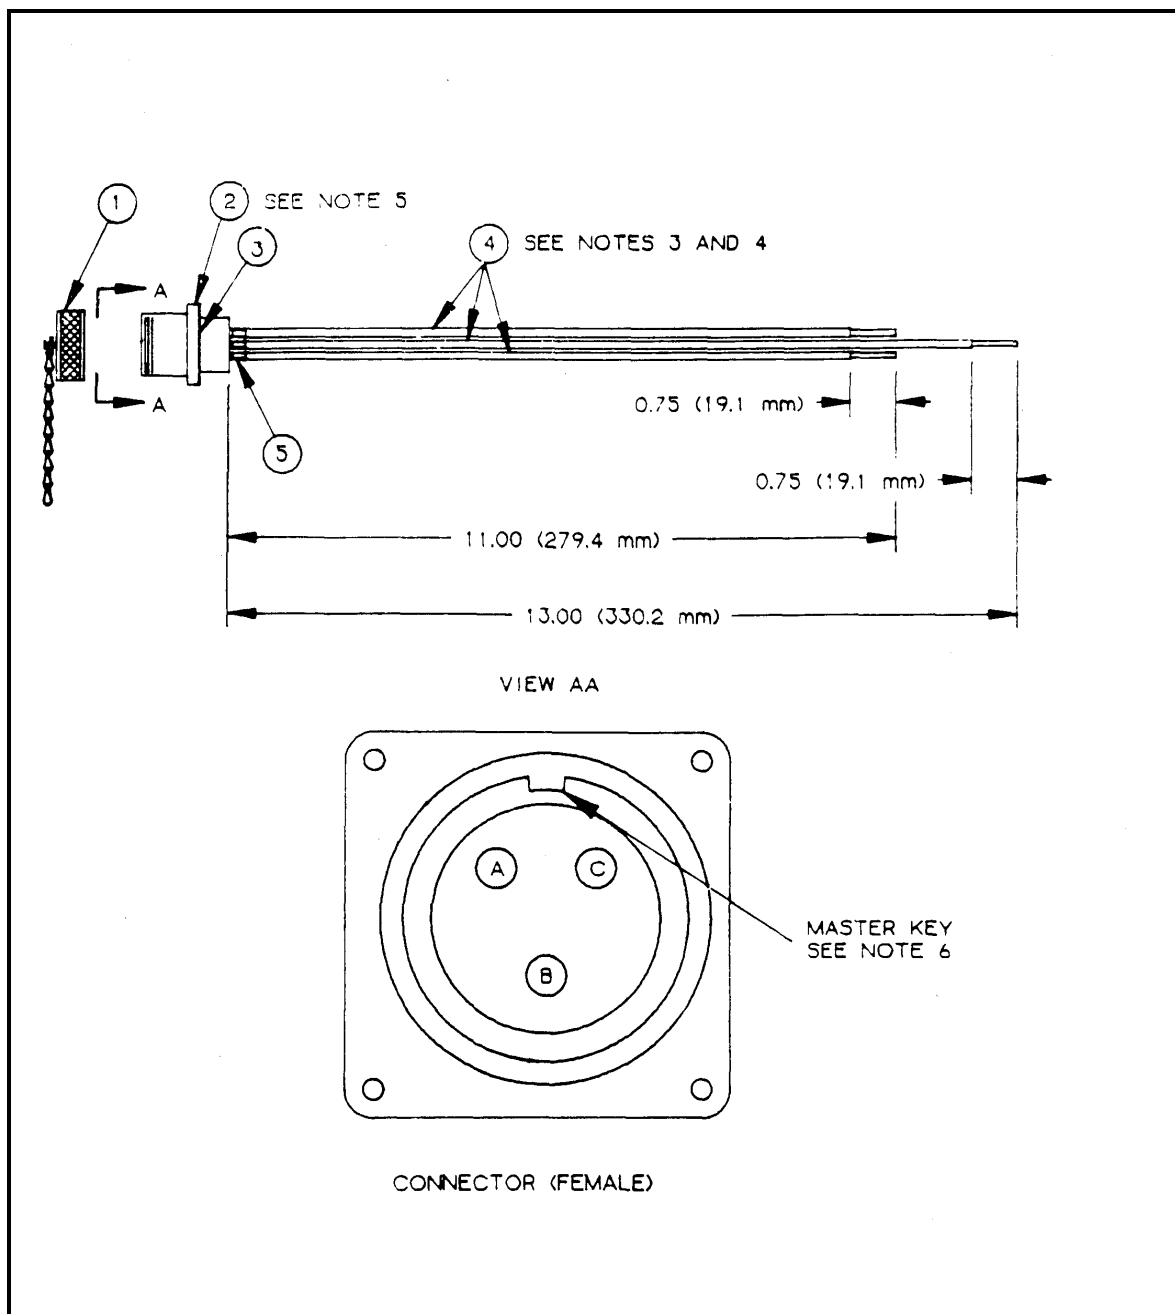

Figure F-12. Output Connector Assemblies, 20-Amp.
M60, 20-Amp Output Connectors, (J3 thru J8)****Component Legend for Figure F-12**
- c. Electrical connector (Figure F-12, Item 2) is furnished with the following: